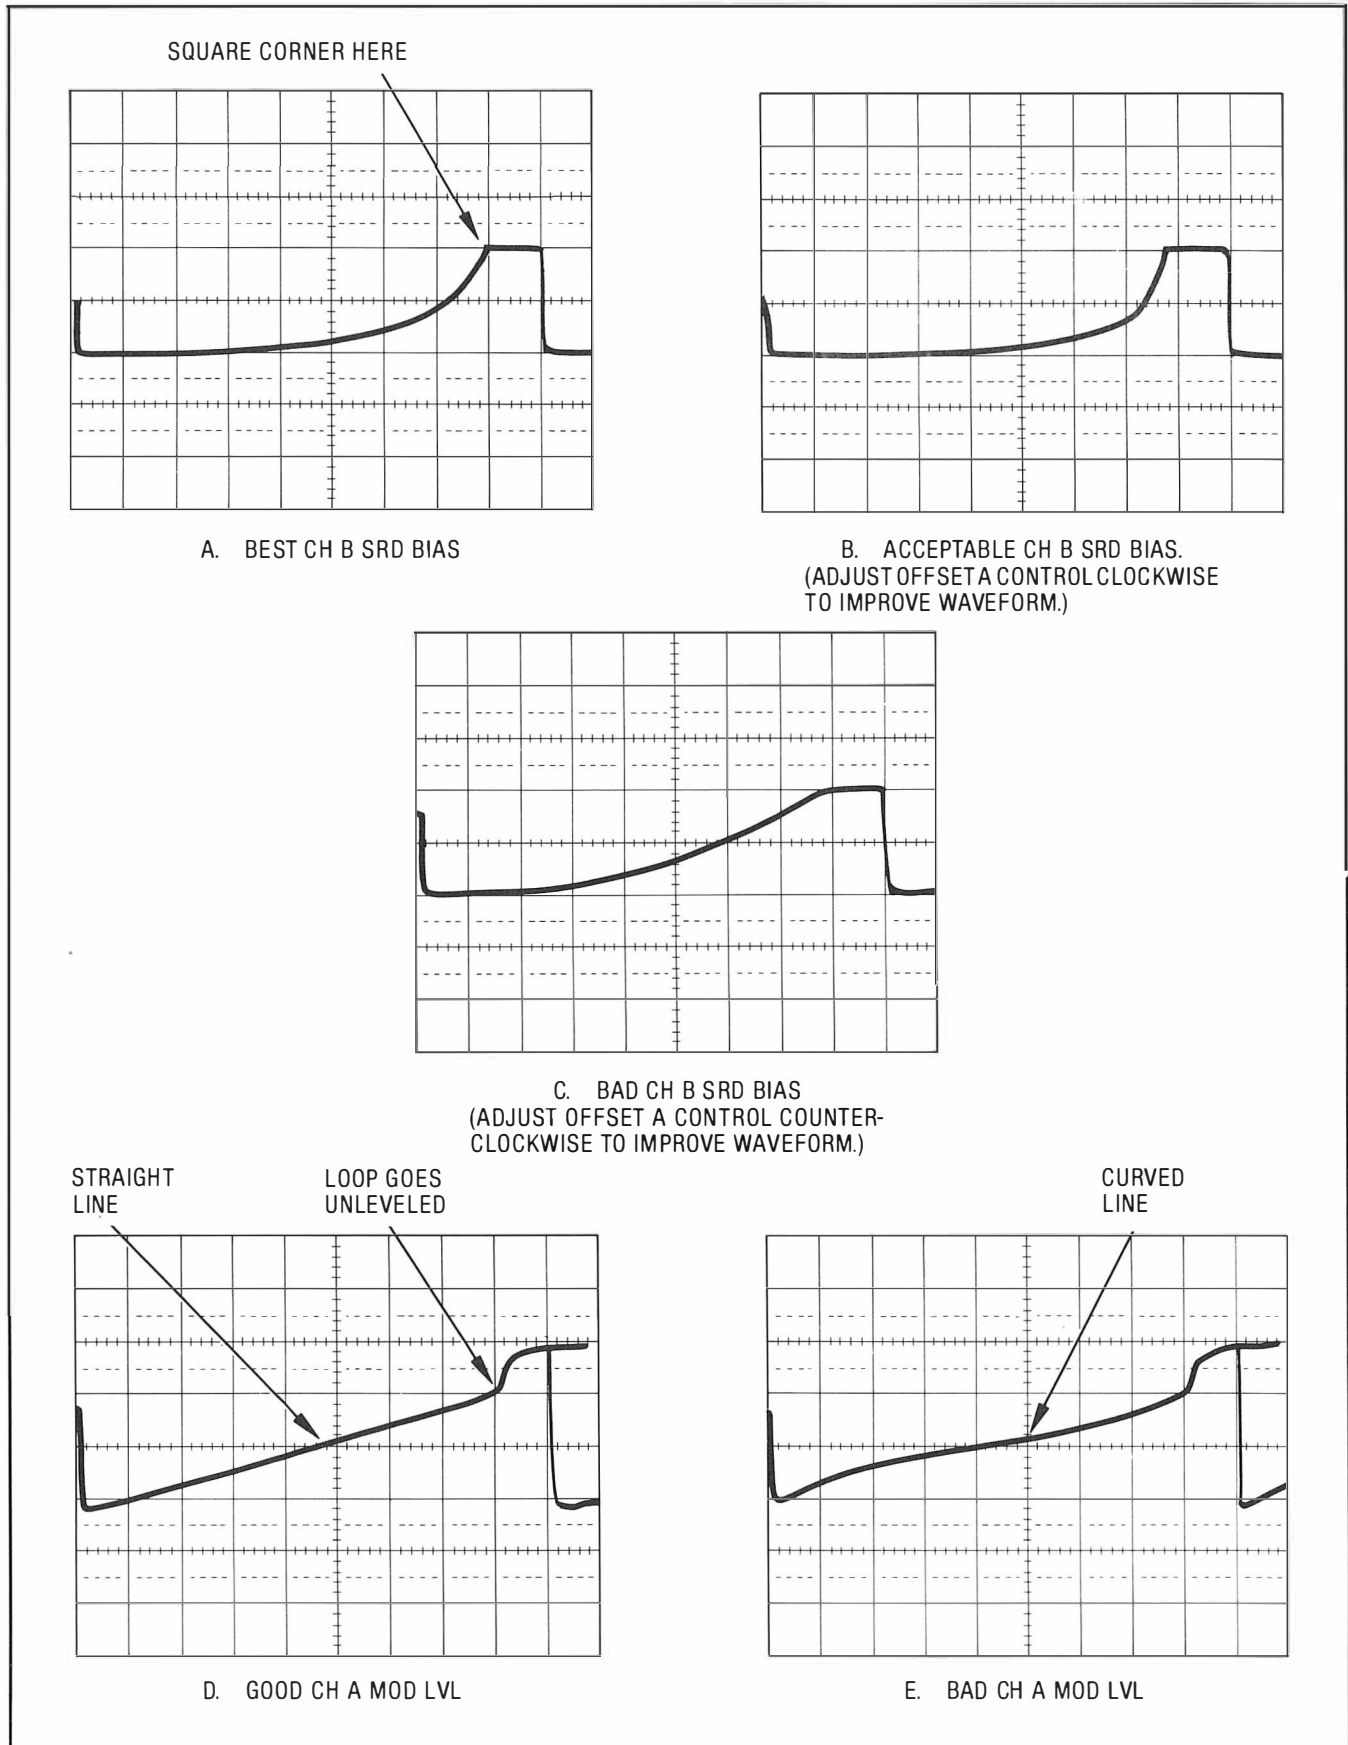

Figure 5-51. Typical MOD LVL and SRD BIAS Waveforms
7. Center A24R12 MIN control and A24R5 X2C control. Adjust A24R1 OFF A for optimum display as shown in Figure 5-51, Waveform A, B, and C.
8. Press HP 8340A **[CW]** and enter **[1] [0] [.] [6] [GHz]**. Adjust A24R2 OFF B for optimum trace as shown in Figure 5-51, Waveforms A, B, and C. Using the **[STEP]** keys, step through Band 2 from 7 to 13.4 GHz and check for an optimum SRD Bias trace (Figure 5-51, Waveforms D and E) at each step. If not optimum, adjust A24R2 OFF B if the HP 8340A frequency is closer to 13.5 GHz, or adjust A24R1 OFF A if the frequency is closer to 7 GHz. If an adjustment is made, step through the entire band again, making sure every step is optimized or acceptable if all steps cannot be optimized.
12. Press **[RECALL] [1]** then press **[CW]** and enter **[1] [0] [.] [6] [GHz]**. Change oscilloscope EXT TRIGGER to NEG. TRIGGER, DISLAY CHOP: CH A to .05 V/DIV, and CH B to 0.1 V/DIV. Adjust A24R5 X2C to minimize the MOD LEVEL voltage at the start of the power sweep and keep the MOD LEVEL power sweep trace straight with no steps or "bows" as it sweeps up. Using the **[STEP]** keys, step through band 2 from 7 to 13.4 GHz and readjust A24R5 X2C if necessary to improve the MOD LEVEL trace. Also, adjust A24R1 OFF A and A24R2 OFF B if necessary to optimize the SRD Bias as in step 8 above. If any adjustments are made, step through band 2 again until the SRD bias and the MOD LEVEL trace is optimized. It will not be possible to adjust the MOD LEVEL trace for optimum at each step, so adjust for best compromise trace all across Band 2. (See Figure 5-51.)
power sweep and keep the MOD LEVEL trace straight with no “bows” as it sweeps up. (Refer to Figure 5-51.) Press **[RECALL] [1]** then **[CW]** and enter **[1] [7] [.] [5] [GHz]**. Adjust A24R8 X3C for a MOD LEVEL trace as described above. Using the **[STEP]** keys, step through Band 3 from 13.5 to 19.9 GHz and readjust if necessary to achieve the best MOD LEVEL trace across Band 3.
The SRD bias trace is adjusted in Band 2 with A24R1 OFF A and A24R2 OFF B for optimum. It should not require any other adjustments in Bands 3 or 4, unless the SRD bias trace is bad as shown in Figure 5-51. If either the OFF A or OFF B controls are adjusted in Bands 3 or 4, then each band will have to be rechecked, starting with Band 2 at 7 GHz and stepping through each band.